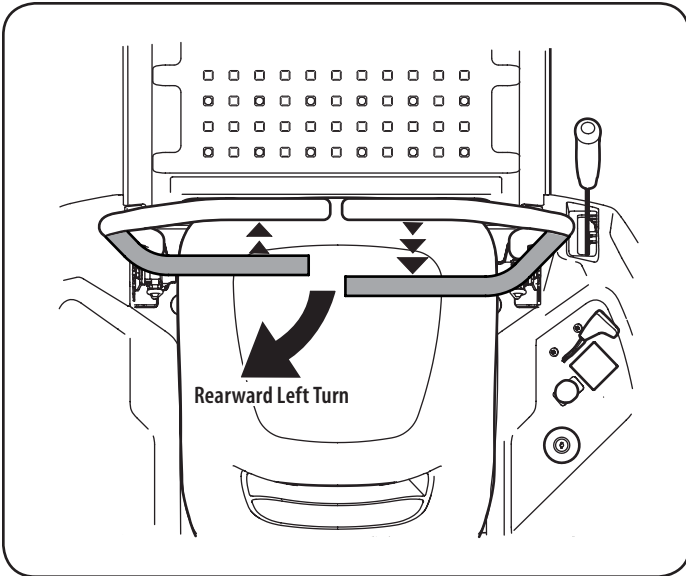

Figure 14
- To turn to the left while traveling in reverse, move the left drive control lever forward of the right lever. See "Figure 14".